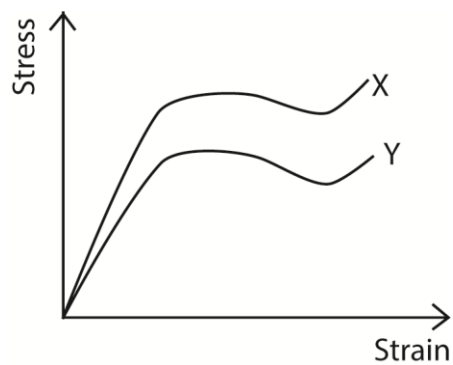

Fig. 1
- (c) Figure 1 chows graphs of stress against strain for two metals X and Y.